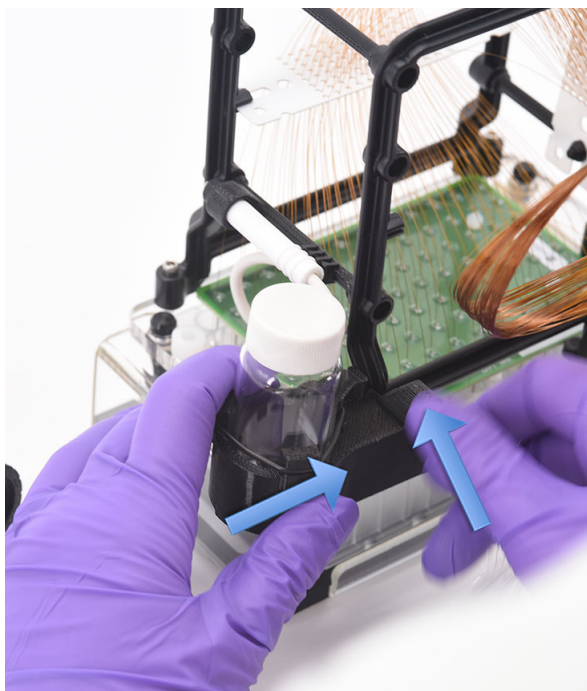

Figure 104 Array spindle storage device installation
- 7 Slide the array spindle storage device onto the capillary array side arm, located to the left of the capillary array window, and screw the locking screw into place as shown in **Figure 104**.